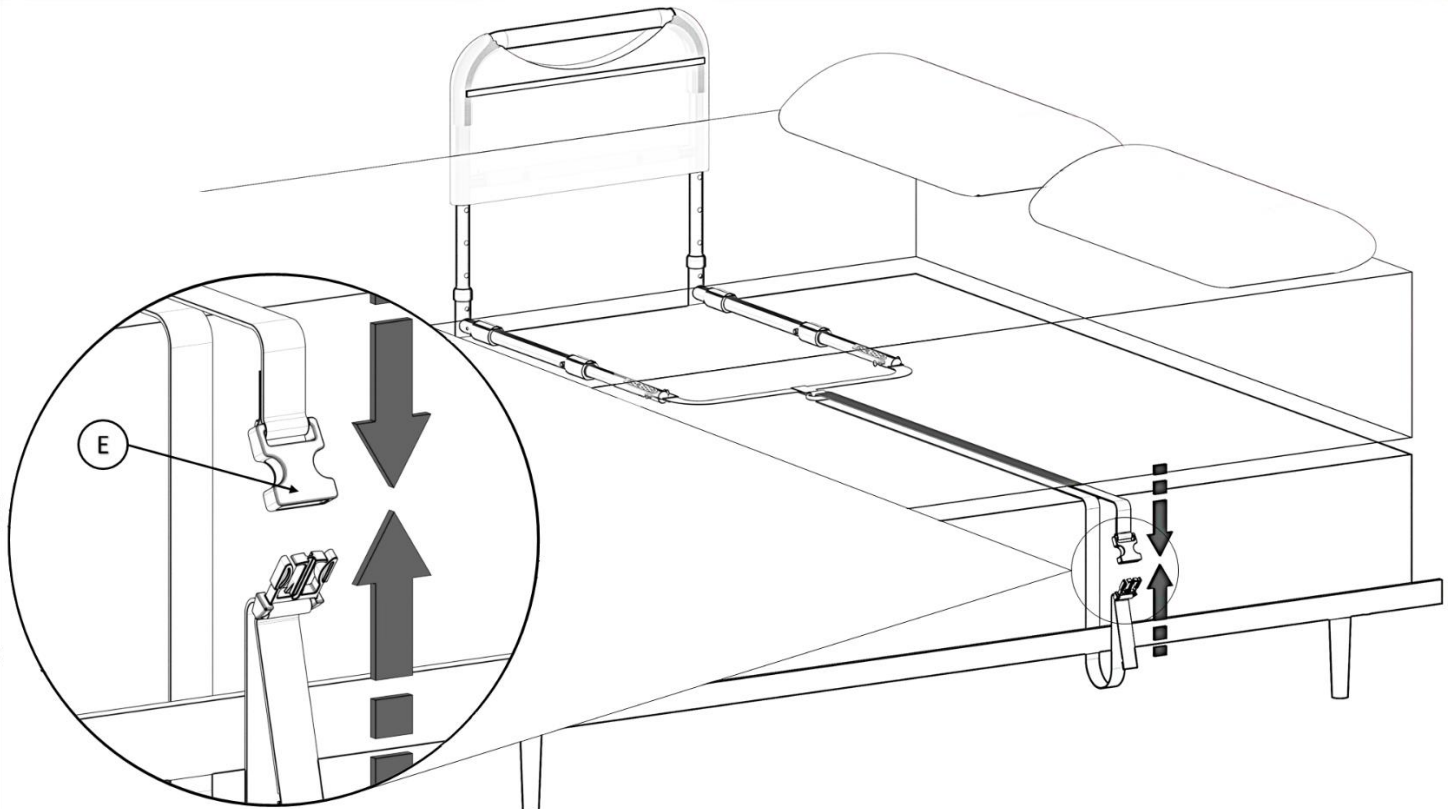

FIGURE 4
4. Loop SAFETY STRAP (Part **E**) around bed frame, re-buckle and tighten SAFETY STRAP to secure Bedrail product against side of the mattress as shown in Figure 4.